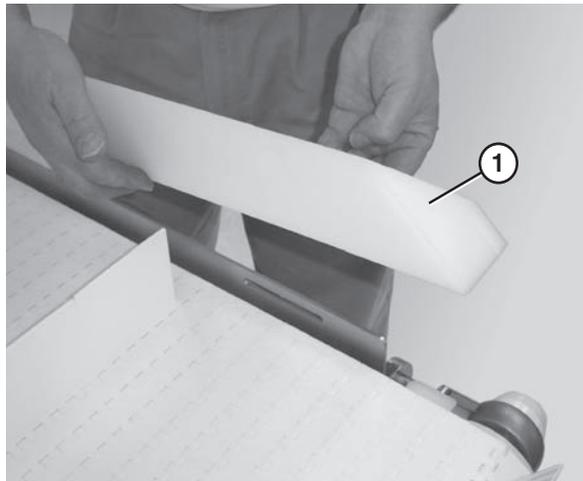

Figure 45
2. Remove the guide (**Figure 45, item 1**).